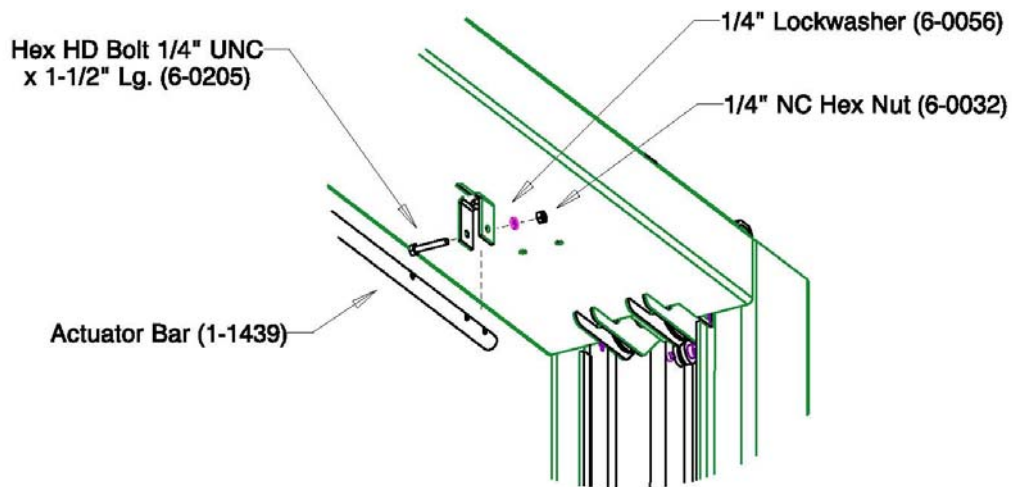

Figure 8: Actuator Bar Installation
Note: The safety shut off will disconnect the power to the power pack when an obstruction touches the padded bar or the carriages reach their maximum height. The safety shut off switch is factory pre-wired. Refer to **Figure 8**.
2. Attach the Actuator Bar to the Actuator Mounting Bracket using one (1) 1/4" NC x 1 1/2" lg. hex head bolt, one (1) 1/4" lockwasher, and one (1) 1/4" NC hex nut. Orient the Actuator Bar so that the last hole (out of the set of 3) is used when mounting. (**Figure 8**)